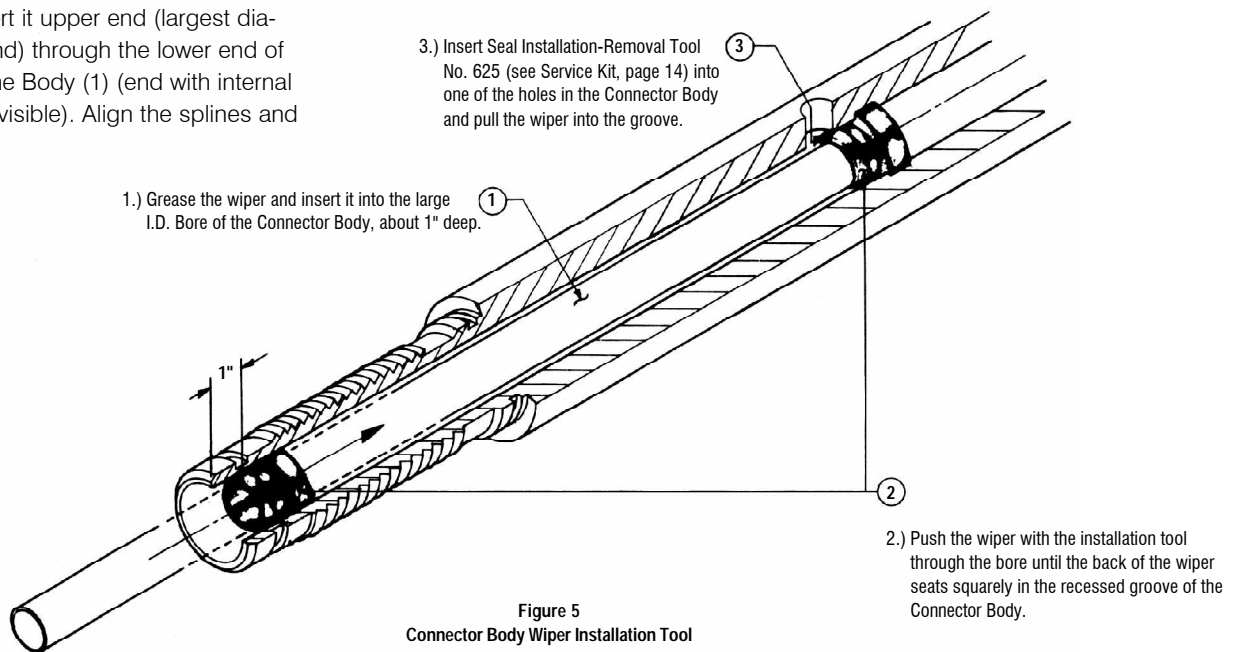

Figure 5
1. Coat all O-Rings, Back-Up Rings and Wipers with a good grade of clean, light oil and install them in their proper places. To install the Connector Body Wiper (23) in the 3¹/₈" thru 6" Jar follow the procedure in Figure 5 below).
2. On Jars that have two Connector Body Packing Sets (24 and 25), install the packing on the Connector Body (18). On the I.D Packing Set (24), install the flat spacers after all other rings are in place. After sliding the O.D. Packing Set (25) in place, install the Packing Retainer (29) and the Packing Retainer Ring (30). On Jars with a single Connector Body Packing Set (27), the packing will be installed later.
3. Center the Spline Body (1) in the vise and clamp securely. Coat the splines generously with Bowen Thread Lubricant (KOPR-KOTE).